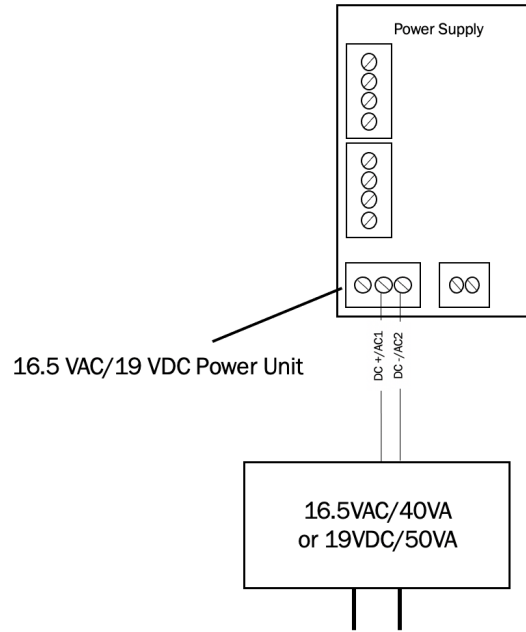

Figure 12 - Connect AC/DC Power Adapter to Power Supply
- b) To daisy-chain the boards together: (See Figure 12 below)